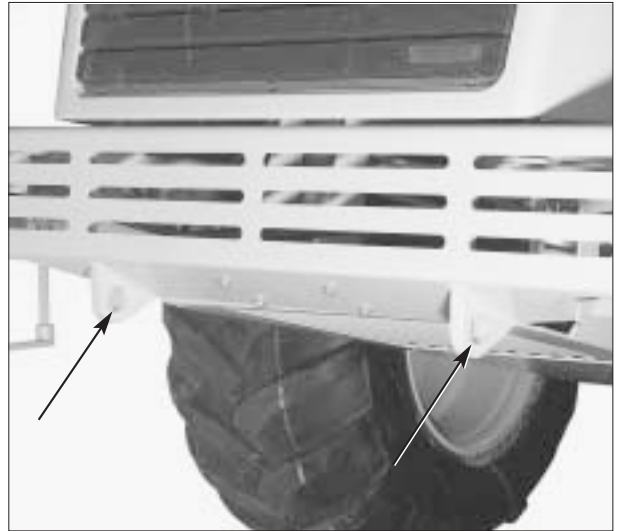

Fig. 32
Towing must only take place in exceptional cases. A towing bar mounted in the towing eye at the front of the machine must be used (fig. 32).
4. Tighten the machine to the trailer with chains in the towing eyes in front fig. 32 and the axle plates at the rear fig. 35.